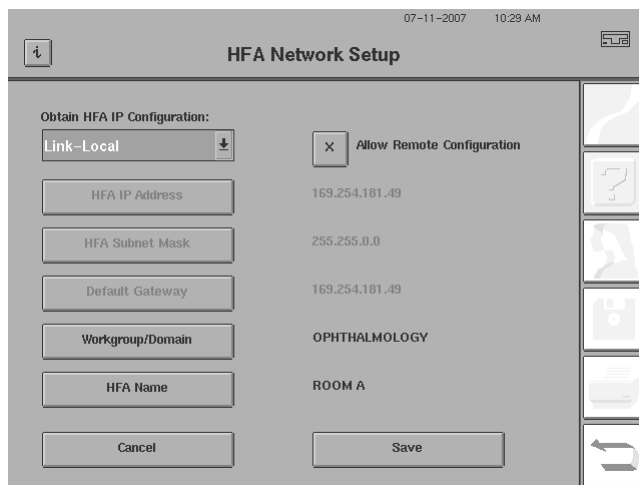

Figure I.5 HFA Network Setup Screen – Link-Local
- 1 From the HFA Network Setup screen, select LINK-LOCAL from the OBTAIN HFA IP CONFIGURATION drop-down box (see Figure I.5).
From the HFA Network Setup screen, select DHCP from the OBTAIN HFA IP CONFIGURATION drop-down box (see Figure I.5).